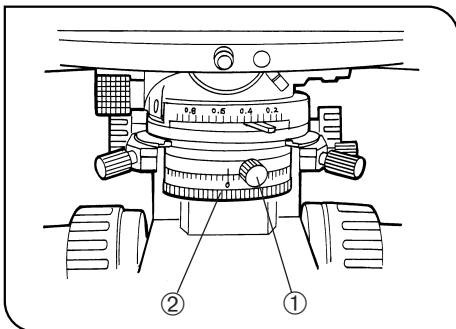

Fig. 30
(Fig. 30)
- 2. Insert the rotatable analyzer into the light path and set vibration direction scale at the 0° position. Clamp with the clamping knob. (Fig. 30)
- 4. Loosen the polarizer clamping knob ①. Rotate the polarizer rotation dial ②, until complete extinction is obtained. At this point, tighten the clamping knob ①. (Fig. 30)